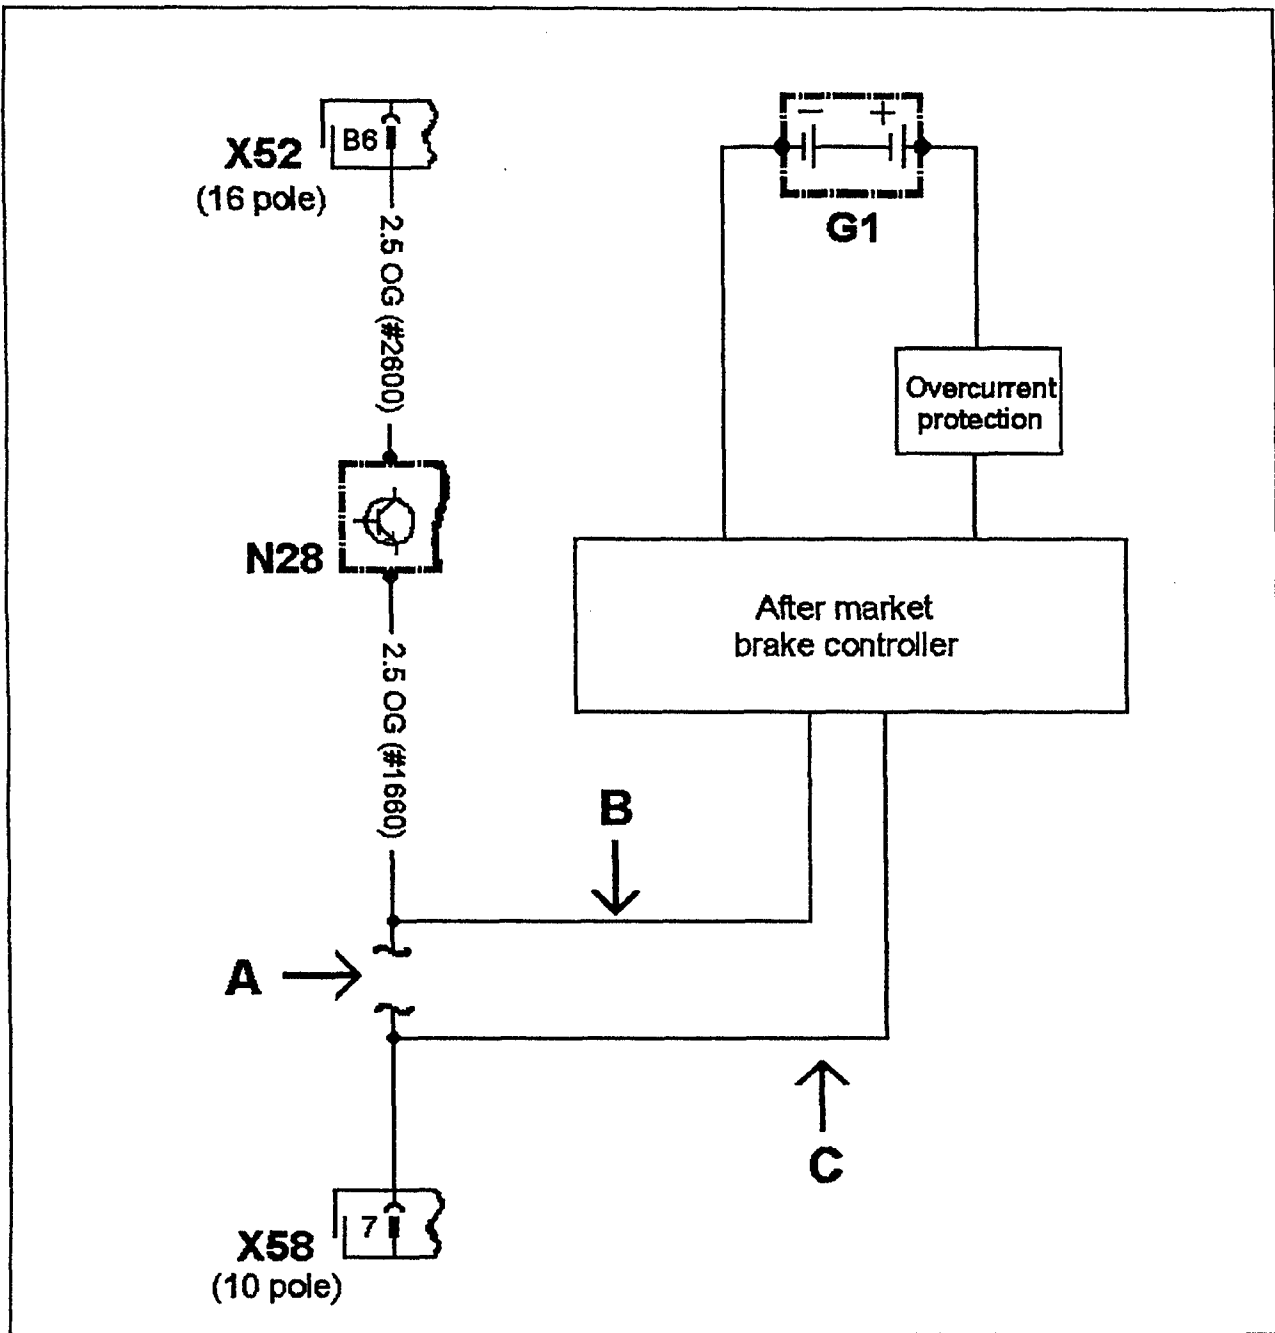

Figure 1
1. Locate the 3-wire to 2-wire converter (N28, Figure 1) that is built into the wiring harness supplied with the trailer hitch kit (part no. Q6 31 0002).
2. Cut the orange circuit #1660 wire (A) at a point after N28, but before the point the harness exits the vehicle through the grommet.
3. The end of the orange wire # 1660 that comes from N28 should be connected to a new wire (B) and run to the brake controller. This wire supplies the brake light signal to the controller and only needs to be of wire size 1mm² or equivalent.
4. A second wire (C) should be run from the brake controller output to the end of the orange wire # 1660 that runs to the trailer socket (X58). This is the designated electric brake terminal. Refer to the brake controller installation instructions for proper wire size.